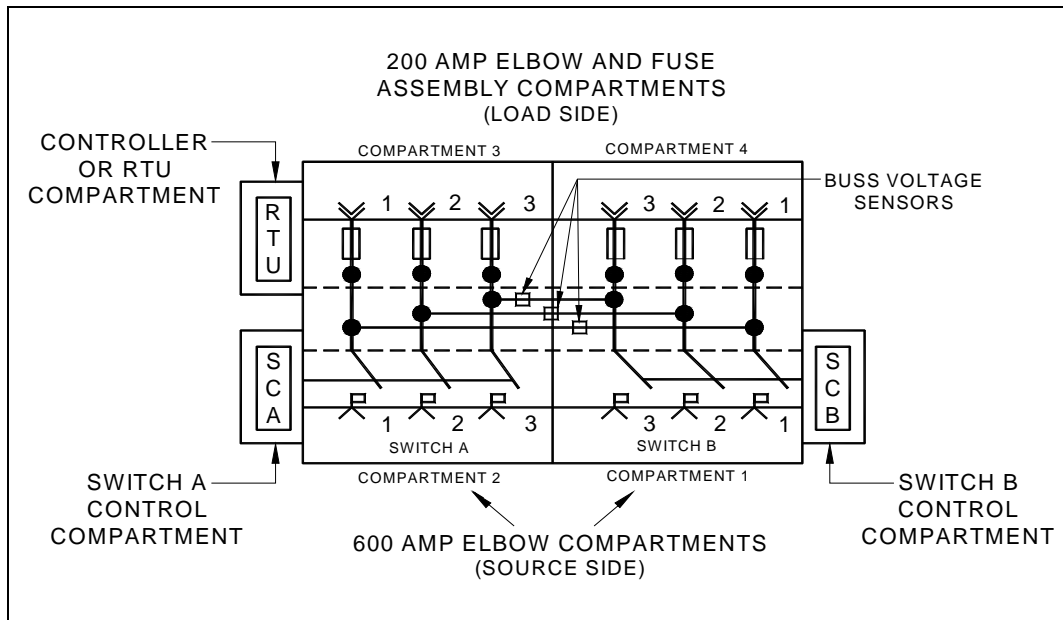

Figure 5 – Typical Motor-Operated S&C Switch Electrical Configuration Diagram
Note 2: The opposite side of the switch has only a switch control compartment. See Figure 5.
- 2.9 Refer to Figures 5 and 6 for phase configurations and equipment locations for RTU, switch controls and manual operating handles.